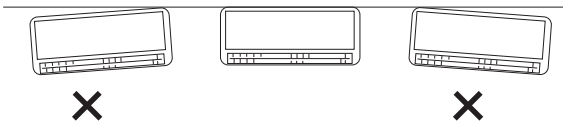

Fig. 3-39
- (2) Double check with a carpenter's level or tape measure that the panel is level. This is important to install the unit properly. (Fig. 3-39)